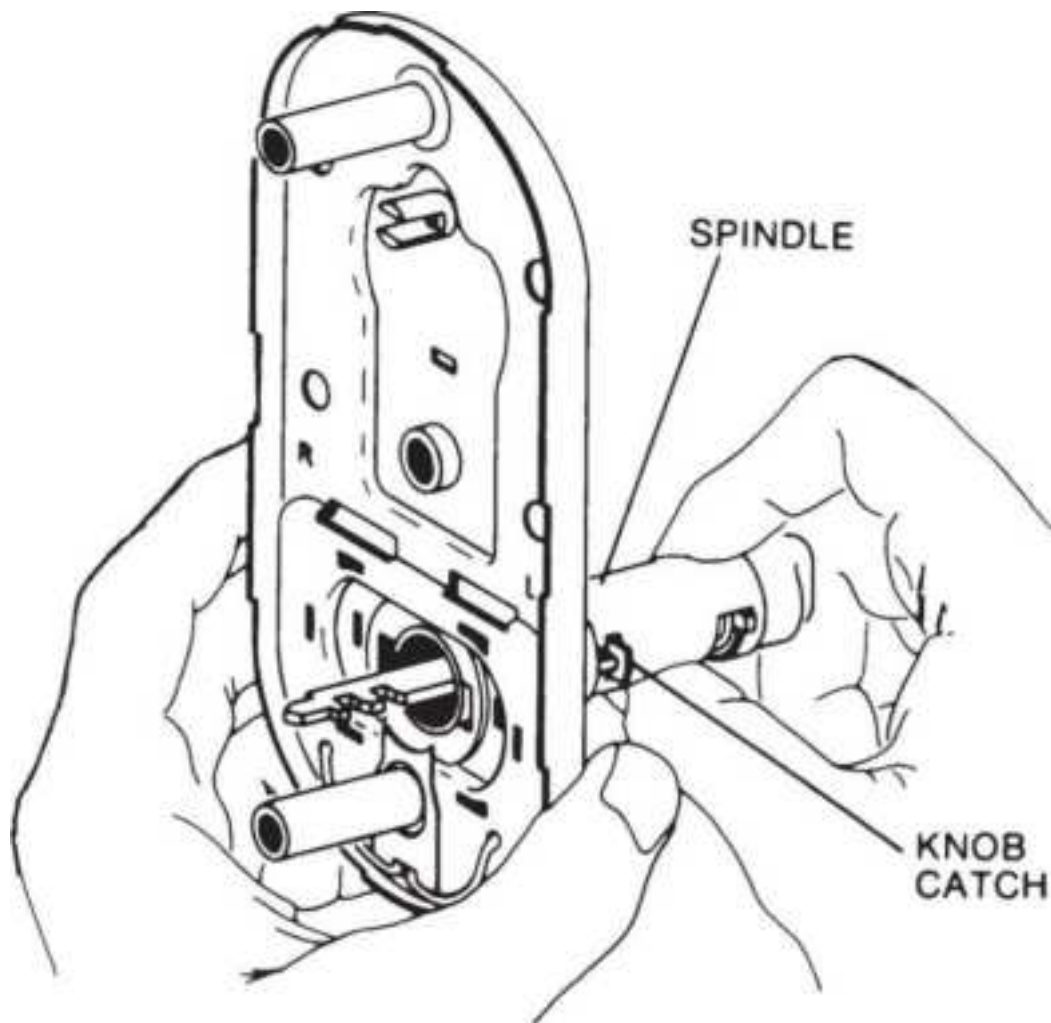

**Figure 13.98** Right-hand conversion, Step 6.
6. Rotate the spindle 180° to relocate the knob catch (Fig. 13.98 ).